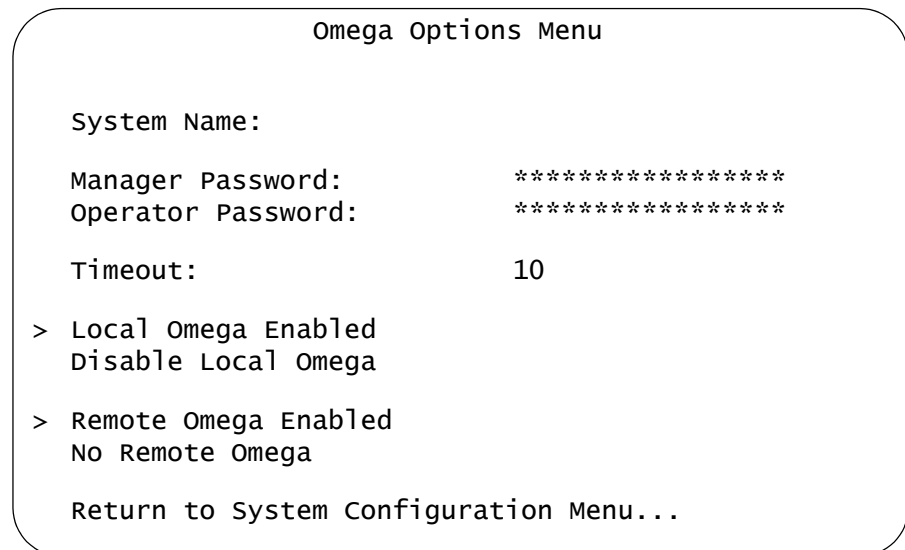

Figure 25. Omega Options Menu
3. From the System Configuration Menu, select **Omega Options** to display the Omega Options Menu in Figure 25.